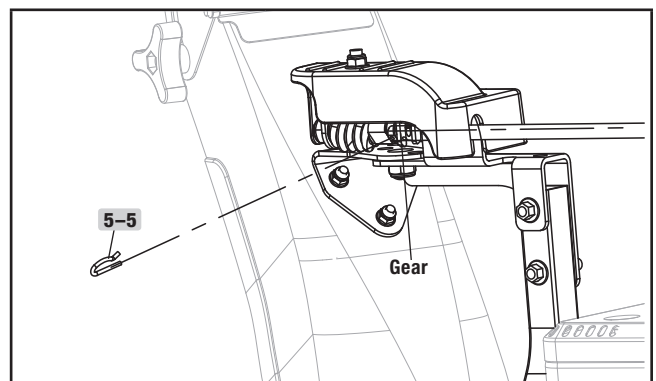

Figure 10B
2. Adjust the fixed hole of the lever and the gear, and then connected with R pin (5-5) (Fig. 10B).